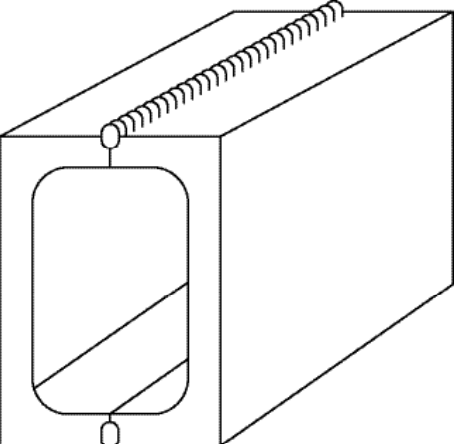
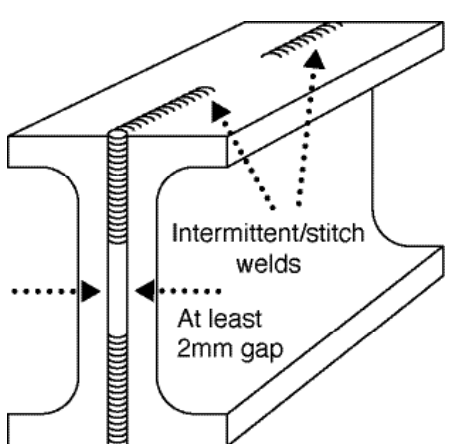

Fig. 4
Fig. 5
**Overlapping surfaces.** There should be a minimum gap of at least 2mm between plates, overlapping surfaces and back-to-back angles and channels (figs. 5 & 6). When small overlaps are unavoidable, seal edges by welding (fig. 4). Where seal welding is not practical, temporary surface staining in crevices may be apparent after galvanizing and quenching. Clean with a bristle brush and mild detergent. Crevices can be sealed after galvanizing with a suitable sealant.